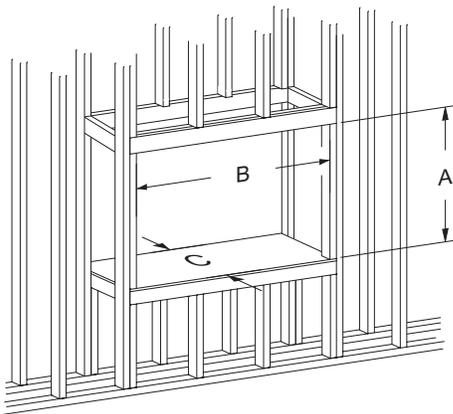

Figure 13 - Rough Opening for Elevated Installation
- Use **Figure 13** for installation on interior wall and **Figure 17** for installation on exterior wall. Provide support to the bottom of the fireplace.